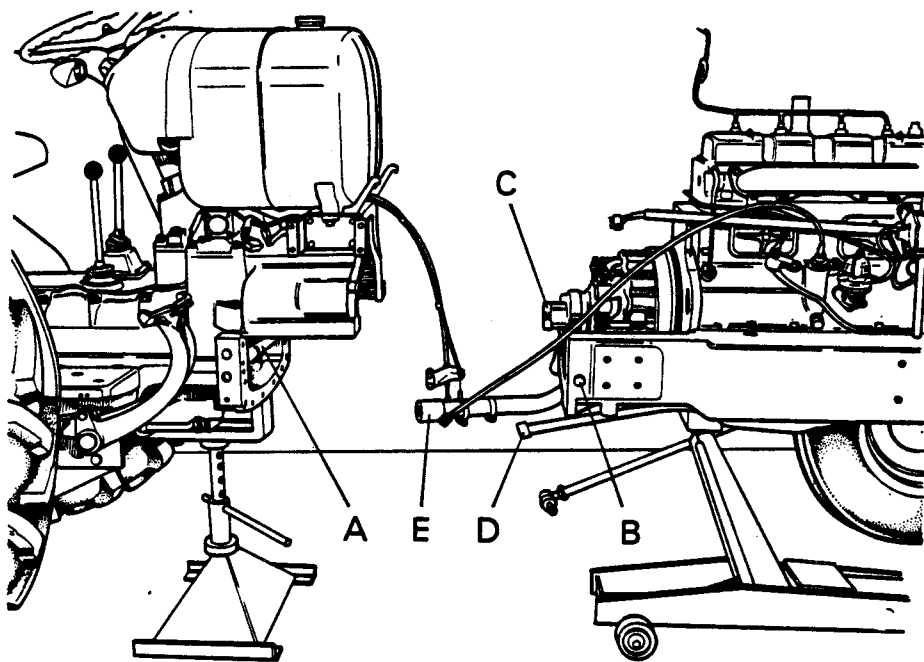

Figure 42. 1200 TRACTOR "SPLIT" FOR CLUTCH REMOVAL
14. Drive a wooden wedge between each side of main frame and front axle to hold front end of tractor vertical (Fig. 42). Remove bolts attaching clutch cover to engine and main frame and, after ensuring that stand and jack are supporting weight of frame, remove remaining front-to-rear main frame bolts.